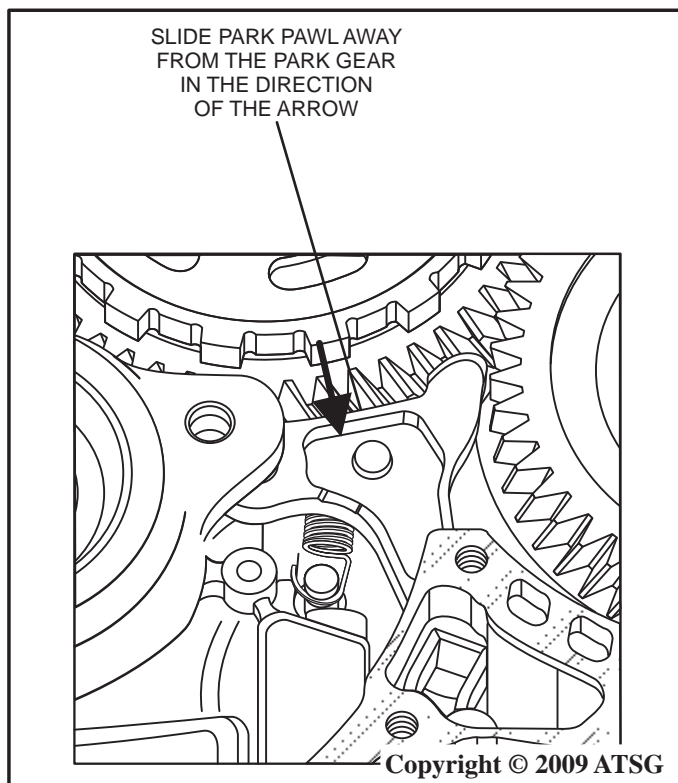

Figure 34
46. Slide the park pawl away from the park gear in the direction of the arrow as shown in Figure 34. Failure to do so will not allow removal of the underdrive planetary assembly.